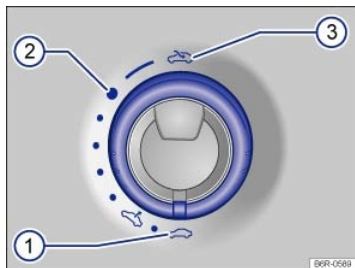
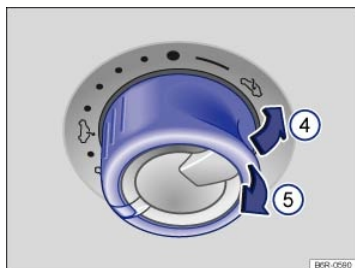

Fig. 34 In the headliner: Rotary switch for the power sunroof: Turn the rotary switch to slide the sunroof open or closed.
Fig. 35 In the headliner: Rotary switch for the power sunroof: Press or pull the switch to tilt open or to close
The rotary switch must be turned to its home position ⇒ Fig. 34① to tilt the power sunroof.
⇒ Fig. 34
⇒ Fig. 35
- The switch ⇒ Fig. 34 must be rotated to the Closed position ①.
- If the power sunroof opens again but there is nothing in the way, turn the rotary switch to position ⇒ Fig. 34① and pull down the rear part of the switch ⇒ Fig. 35⑤ until the power sunroof closes completely.